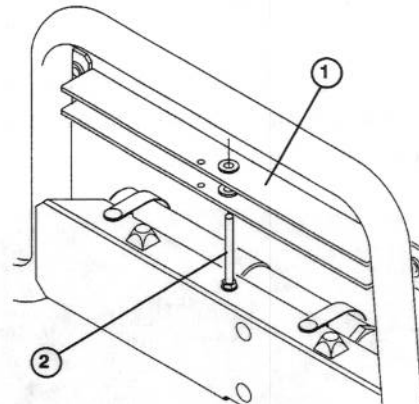

Figure 20
2. Remove the bed support from storage stud on top of the back rest support channel on the Workman (Fig. 20).